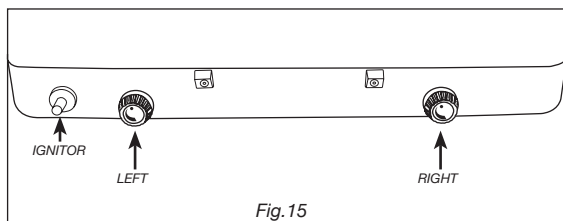

Fig.15
- Turn the gas control knob onto the “ON” position. Then using the “RED” ignitor control to ignite the burner, making sure that the burner has been lit. (Fig. 15)